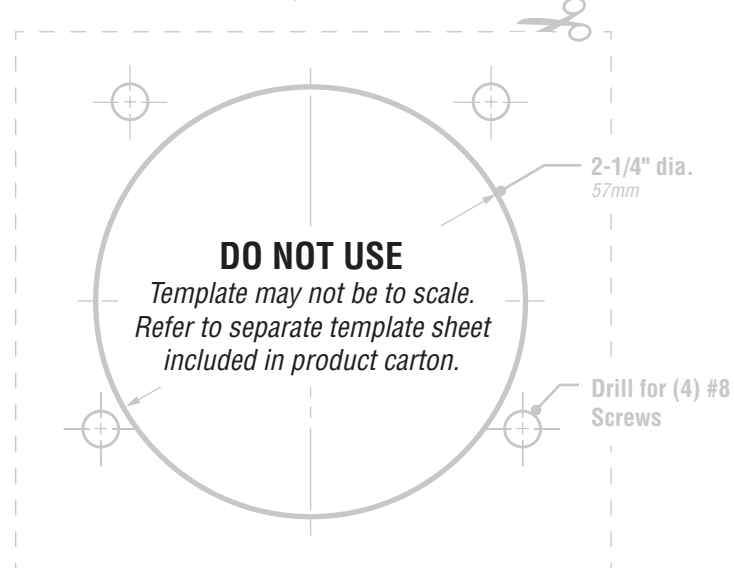

FIGURE 2
4. "Dry Fit" the Deck Fill neck into hole. (Figure 2)
10. Attach and clamp 1-1/2" (38mm) fill hose using two (2) clamps. Use corrosion-resistant metallic clamps with nominal band width of at least 1/2" (12mm). The first clamp should be 1/4" (6mm) from the end of the hose. The second hose clamp should be located above the barb leaving a small gap (maximum 1/4") between the clamps. Torque hose clamps to 36+/- 4 in-lb.
11. Attach and clamp 5/8" vent hose using at least one (1) clamp. Torque hose clamp to 36+/- 4 in-lb. Ensure 5/8" vent hose connects with 5/8" port on 99FL Series vent valves.